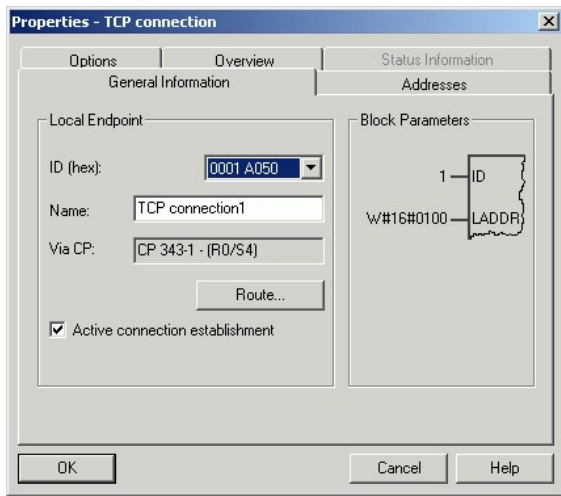

Fig. 1: Properties of the TCP connection
The input parameters "ID" and "LADDR" have to be taken from the Properties dialog of the TCP connection in NetPro (Fig. 1). In the "SEND" parameter you have to specify the address of the data to be sent (P#DB221.DBX2.0 BYTE 48). For "LEN" you enter the number of bytes to be sent (26). The output parameters "DONE", "ERROR" and "STATUS" are required for job evaluation and are only valid in one and the same cycle.
When you call FB102 "AG_RECV_CR, you must take the parameters "ID" and "LADDR" from the Properties dialog of the connection in NetPro (Fig. 1). In "RCV_BUF" you have to specify the storage location for the data to be received (P#DB222.DBX0.0 BYTE50). The output parameters "NDR", "ERROR" and "STATUS" are required for job evaluation and are only valid in one and the same cycle.